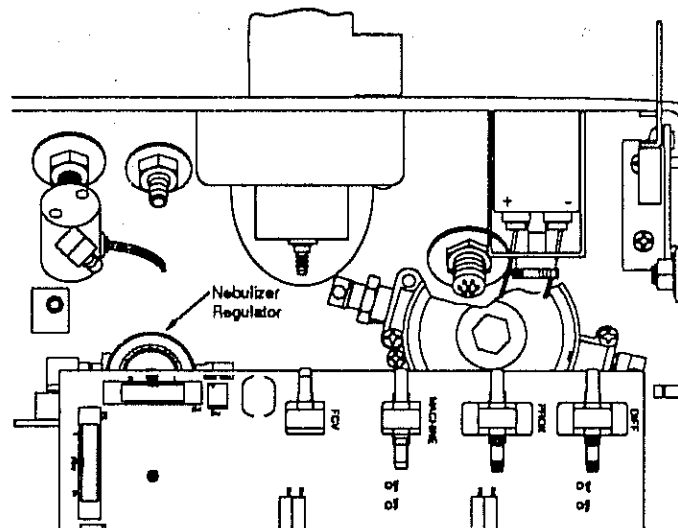

Figure 5-14
6. If required, adjust the Nebulizer Regulator by pulling up the locking ring and turning the center knob (Ref Figure 5-14).